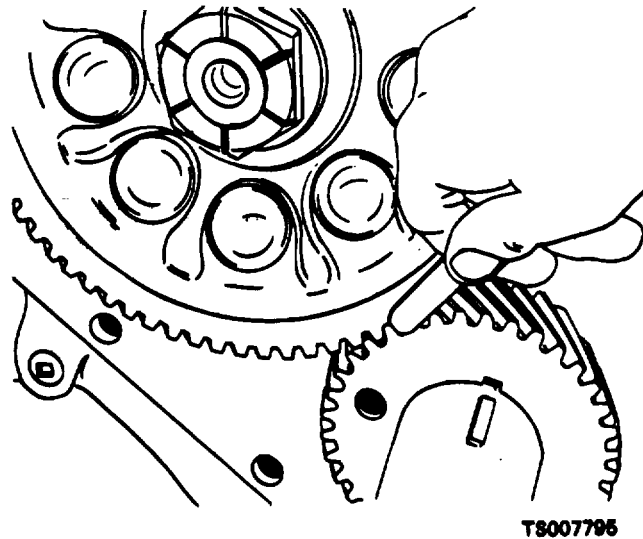

Figure 9-31. Checking Timing Gear Clearance.
c. Check camshaft end play with a dial indicator. If end play is not between 0.003 and 0.007 inch, remove the camshaft timing gear and replace the thrust plate (14).
(1) Force the teeth of the gears apart with a screwdriver. Attempt to insert an 0.0015 inch feeler gage into the gap between the gears (fig. 9-31). If the gage will enter, the clearance is excessive.
(2) If the gage will not enter, place a finger at the junction of the two gears and tap the camshaft gear with a hammer. If vibrations can be felt in the large gear, the clearance is sufficient.